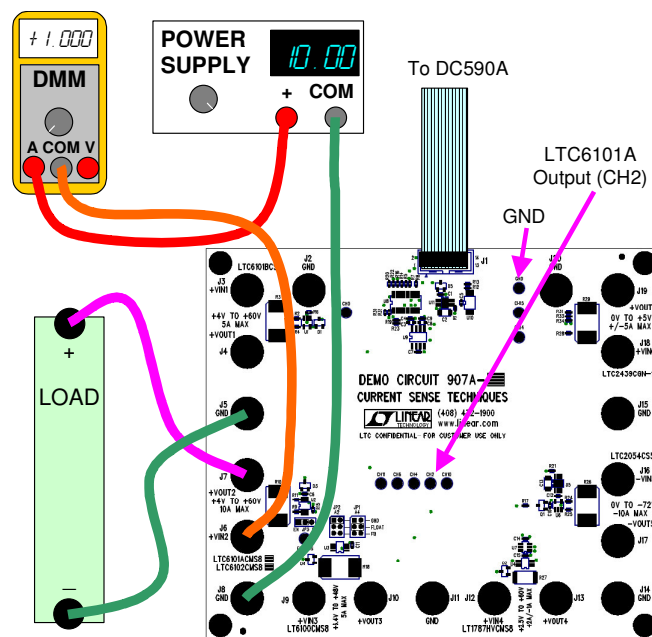

Figure 5. LTC6102 Power and Load Connection
1. Refer to Figure 5 for the following connections.
5. For time-domain measurements and/or stand-alone evaluation, the current-monitor output signal is available on the CH2 turret as indicated in Figure 5.